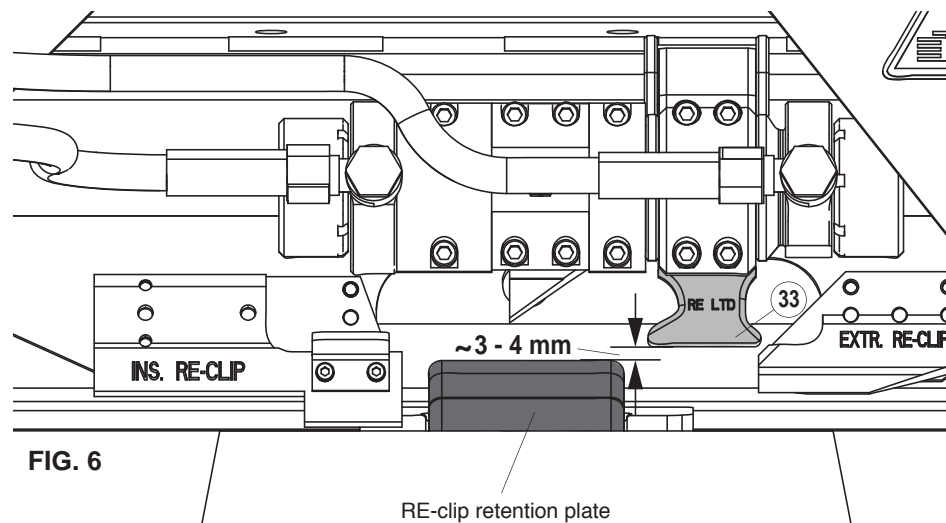

FIG. 6
#### 4.4) Setting the machine (Ref. to Fig. 6)
- The insertion/extraction tooth (33) must be able to slide horizontally with **3-4 mm** clearance above the retention plate (see Fig. 6).